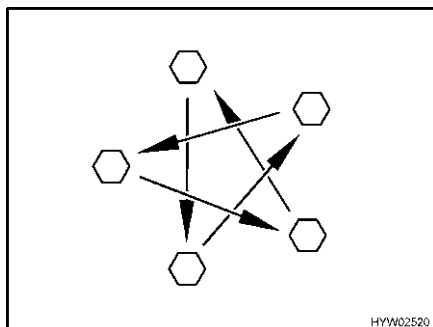

Fig. 278 Tighten the wheel nuts or wheel bolts cross-wise
- Check regularly that the wheel nuts or wheel bolts are firmly seated. Retighten the wheel nuts or wheel bolts of a changed wheel cross-wise (Fig. 278) after 50 km (30 miles). See section 13.5.2 for tightening torque.
- ▷ Tighten the wheel nuts or wheel bolts cross-wise (Fig. 278).